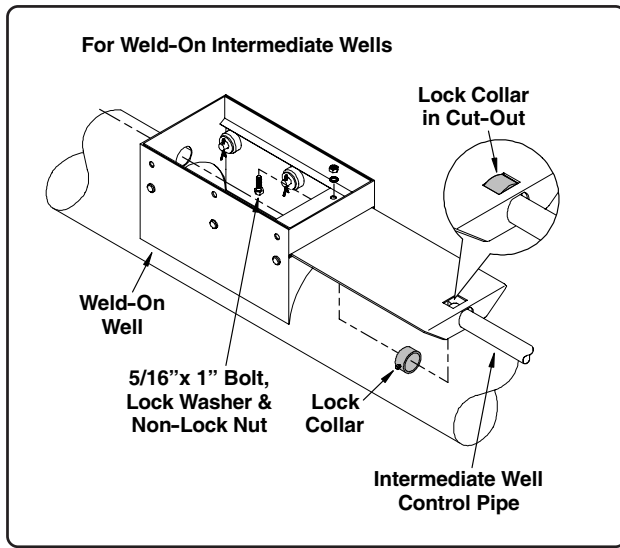

Fig. 9
9. After proper length has been determined, pull the control pipe back to the first well gate. Position a lock collar on the inside of the gate and slide the pipe through the collar and through the intermediate well (See Fig. 9).
10. Now you can secure the lock collar(s) to the control pipe (a portion of the collar will be protruding through the cut-out in the gate as shown in Fig. 9).